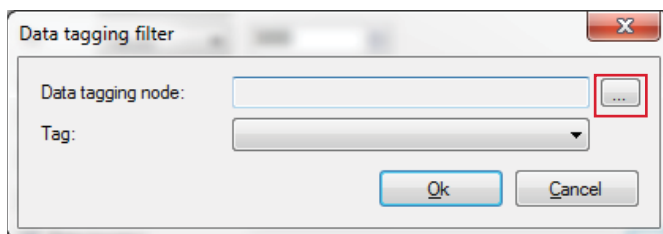

Fig. 14. Select the data tagging node.
- In the **Data tagging filter** window, click the selection button (...) for the **Data tagging node** (→ fig. 14).